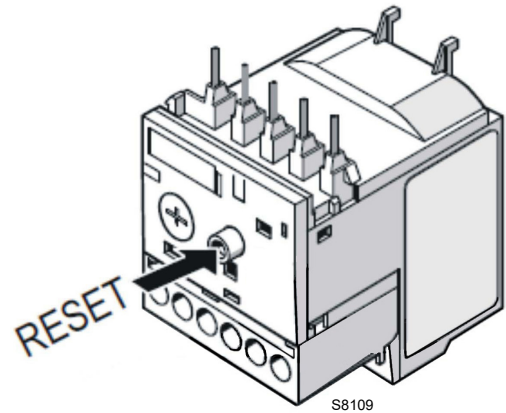

Fig. 19
- To reset, in the case of an intervention of the thermal relay, press the button **"RESET"** (Fig. 19).